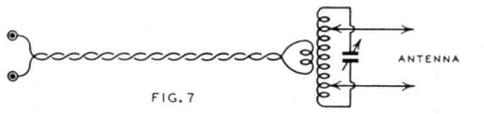
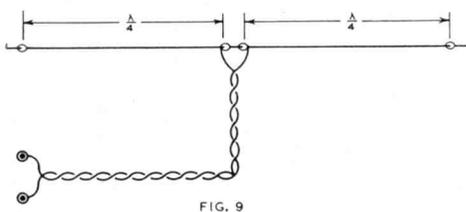
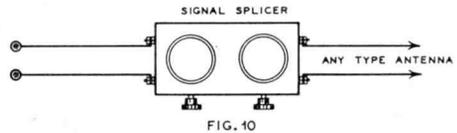

FIG. 7
FIG. 9
FIG. 10
• The Signal Shifter may be used as a low-powered or emergency transmitter by connecting the output terminals to a tuned circuit as shown in Figs. 7 and 8. Also, the output can be connected directly to a twisted pair feeder line, which in turn is connected to the center of a dipole antenna. The twisted pair can be of any normal length, without loss. This circuit is shown in Fig. 9. Another method, using the Meissner Signal Splicer as a coupling unit, enables the operator to employ ANY type antenna with the Signal Shifter. This arrangement is shown in Fig. 10.